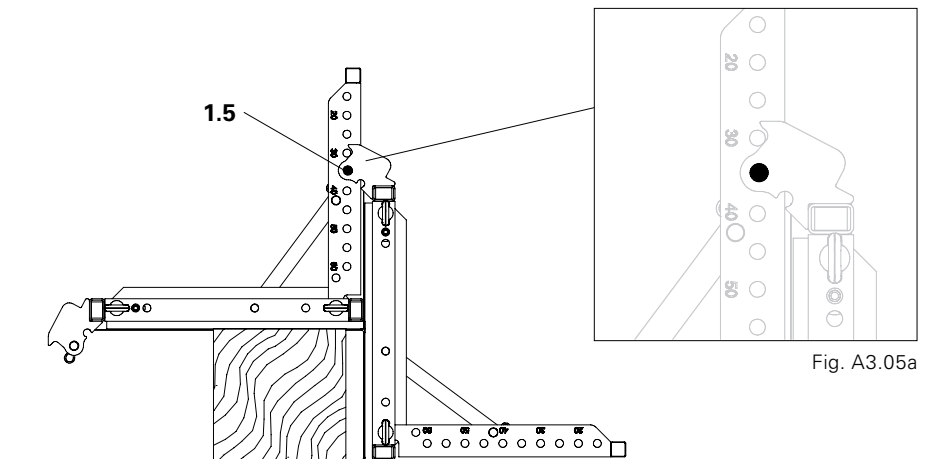

Fig. A3.05
4. Connect both QUATTRO QES Column Elements to the fastening straps and perforated walers by means of Bolts  $\varnothing 20 \times 140$  (1.5) and Cotter Pins 4/1. (Fig. A3.05)